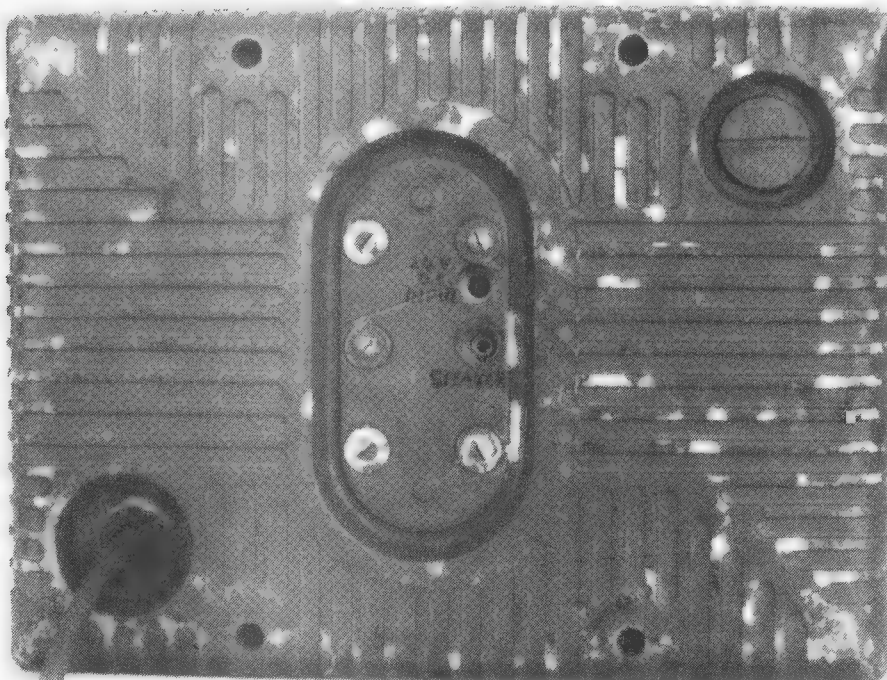

Figure 3.
- (4) A worthwhile modification involves fitting a 240V to 6.3V 7 amp transformer onto the power supply chassis and connecting it to the heater wiring. The vibrator is removed and two rectifier diodes connected in the 175V secondary of the set transformer. Note that they are connected in opposite polarity to a conventional full-wave, centre tap circuit. There is room for two transformers on the chassis if you can't find one with sufficient current rating. The mains lead can conveniently be routed through a large plug hole in a rear corner of the case. Do not use the existing ON-OFF switch for the 240 volt input as it's only rated for low voltage.
- (5) If you can find a dual concentric pot with one 1 megohm and one 0.5 megohm values or similar, you can replace the existing gain control and obtain independent control of RF and AF gain. You must move a brown wire from VR₂ terminal with shielded connection to the VR₂ centre terminal. This is helpful when resolving SSB signals.
- (6) Better performance on SSB can be obtained by converting V13 and FSK IF output, to a product detector.
- (7) Although I haven't tried it, it would not be too hard to change the BFO variable capacitor to a switch connecting one of
- (8) two trimmer capacitors for USB or LSB. You can retune the IF to 455 kHz, from the 460 kHz, if you wish to fit a crystal or ceramic filter for better selectivity. Local oscillator frequency will have to be adjusted.
- (9) If you carried out modifications to provide alternative connections to the front panel Interconnection plug PLA then you can remove the front panel connection plug altogether and fit an S-meter in its place. You may have to enlarge the hole to suit. I haven't detailed any circuit as there are plenty of S-meter circuits in the technical literature.
- (10) On the cosmetic side; if you carefully scrape the paint off the raised lettering on the front panel you highlight them in silver on a green background.
- (11) On many sets the tuning is inoperative. I don't know how this came about but invariably a small ball on the end of a worm shaft in the tuning gearing has been dislodged. You usually find the ball somewhere in the case and it only requires infinite patience to replace it. There is supposed to be a ball at each end of the shaft, held under tension by screwed adjusters sealed with red paint. Undo one of the adjusters and fit the missing ball back by whatever means you can. (see fig 3) I have found that a dab of grease on a toothpick will hold the ball whilst you juggle it in. Tighten up the adjuster just enough to eliminate end play and lock it up again. If you choose to fiddle with the rest of the tuning gearing — best of luck!